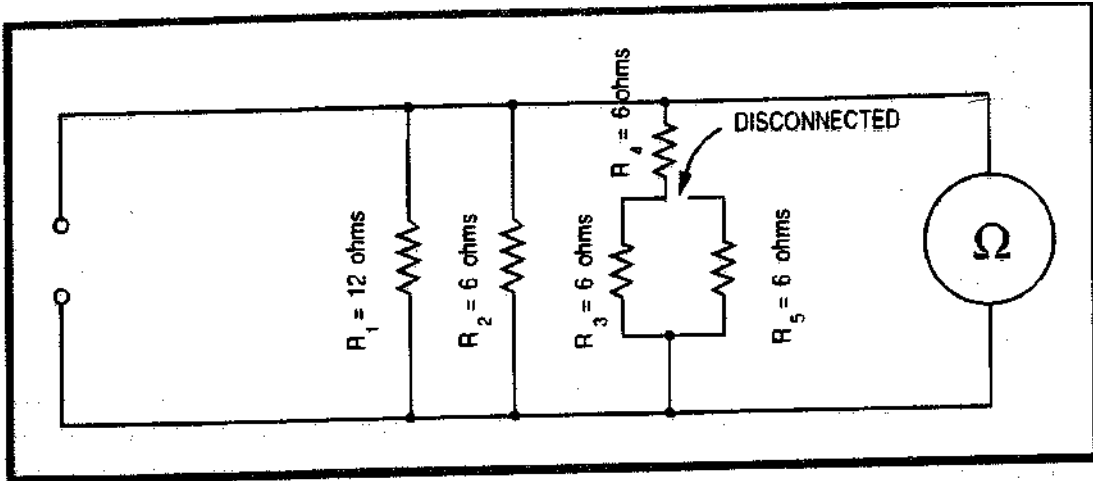

Fig. 9.5. Circuit Diagram.
22. (Refer to figure 9.5) If resistor R_5 is disconnected at the junction of R_4 and R_3 as shown, what will the ohmmeter read ?